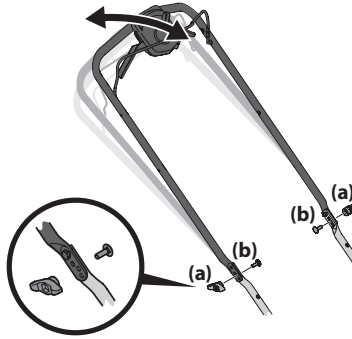

Figure 2-13
- Remove wing nuts (a) and carriage bolts (b) from handle. See Figure 2-13.
- Position the handle in one of the three positions that is most comfortable. See Figure 2-13 inset.